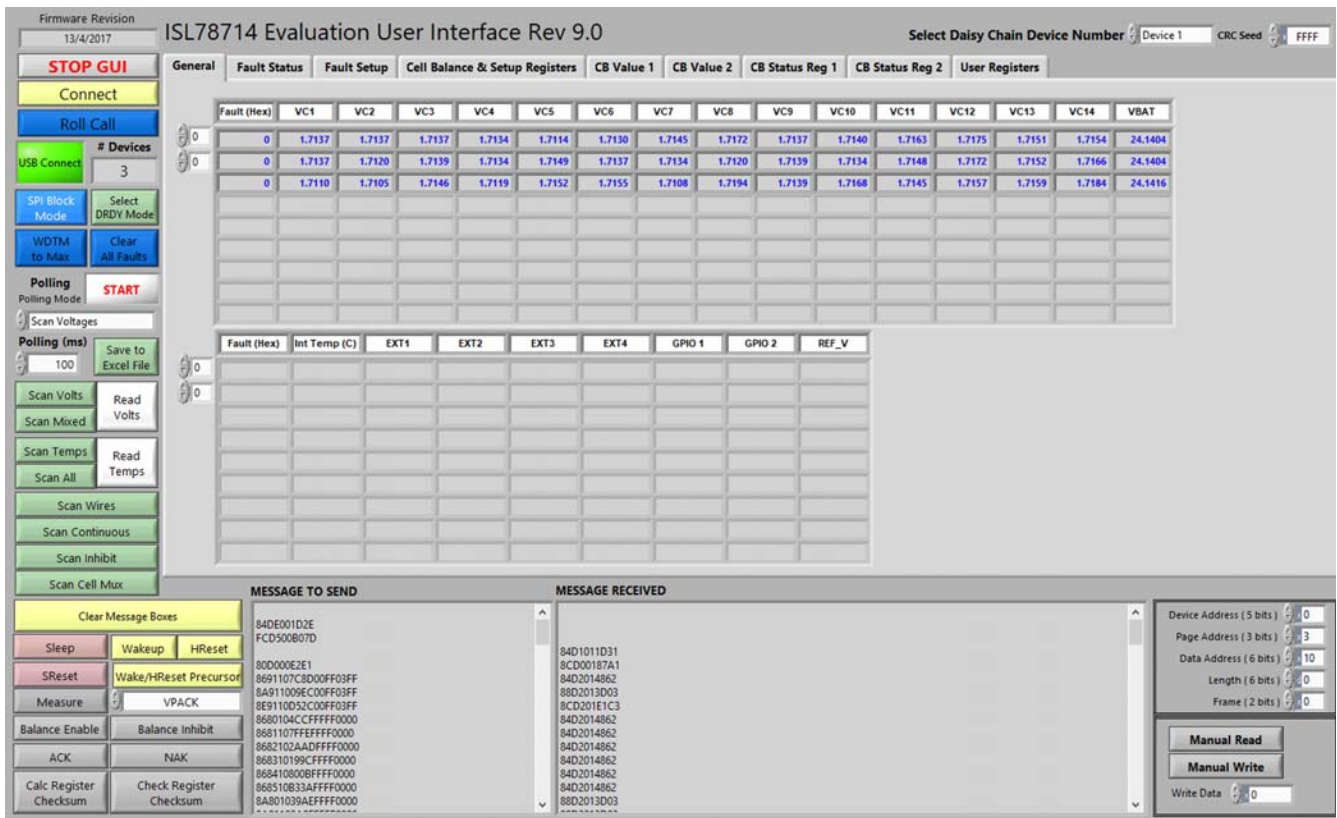

Figure 9. Main GUI Window
- b. Or perform the following steps in sequence: (1) Click on **Roll Call**, (2) Click on **WDTM to Max**, and (3) Click on **Clear all Faults**.
9. Click the **Read Volts** button. The voltage values read in step 8 are displayed. See Figure 9 for a typical setup with three boards in the daisy chain.
Figure 9 shows the GUI Main screen. The primary control elements and commands are on the left. The tab structure (along the top) provides information about the operation of the pack, the setup of each device in the stack, and various other monitor functions. The two message windows at the bottom keep track of and display messages transferred between the GUI and the RAA489204. Finally, in the lower right of the Main screen is an area that allows you to test any specific command that is not provided by the GUI.